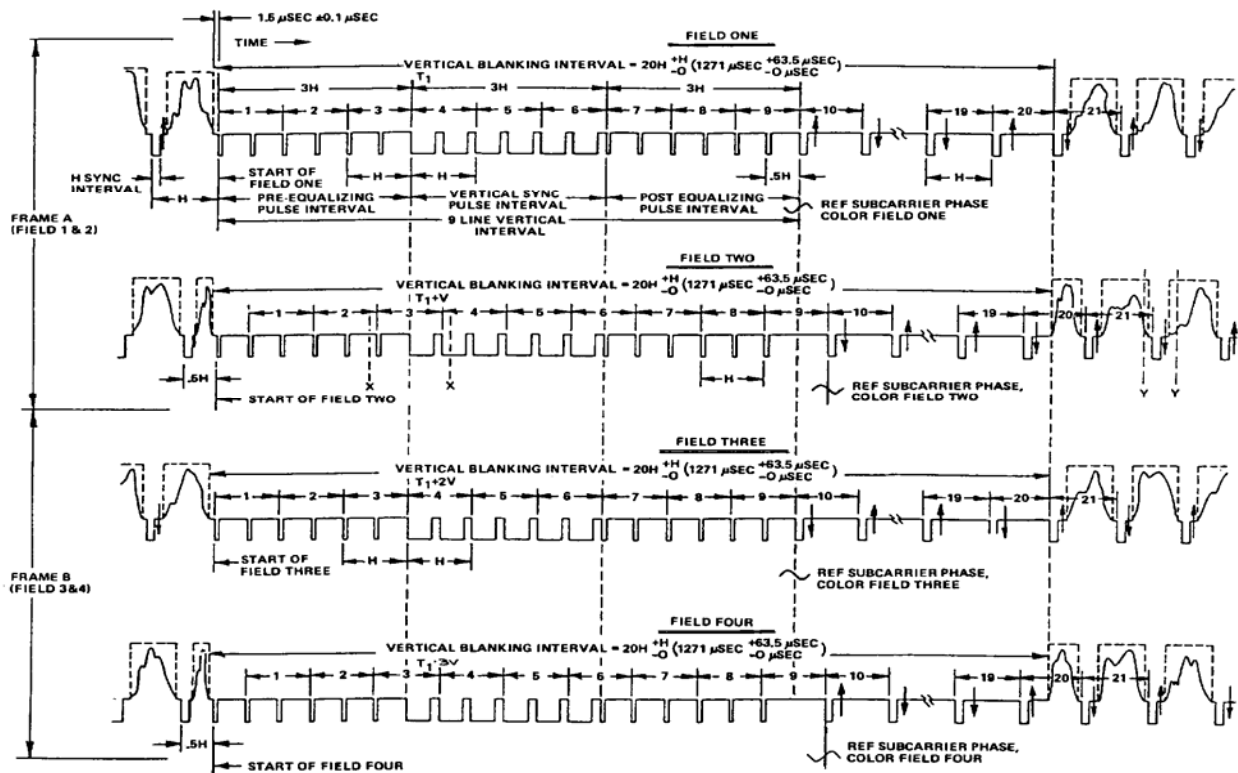

Figure S-4. Vertical and Horizontal Interval (part one)
a. Horizontal Synchronizing Pulses (Horizontal Sync). In Figure S-4, horizontal sync pulses are rectangular and occur at the end of each horizontal scanning line. The purpose of the horizontal sync pulses is to synchronize the horizontal scanning motion in the receiver precisely with the horizontal scanning motion of the camera at the picture point of origin. The horizontal sync pulses are part of the transmitted composite video signal and occur at intervals of 63.5 microseconds (usec). This is the time between the start of one scanning line to the start of the next scanning line.
(1) Each horizontal sync pulse rides on a corresponding blanking pulse, but has duration less than that of a blanking pulse.
(2) In Figure S-4, the leading edge is delayed with respect to the leading edge of the blanking pulse upon which it rides. This delay forms a step in the composite signal known as the front porch.
(3) Similarly, the step formed by the difference between the trailing edges of the sync pulse and the blanking pulse is called the back porch. The front porch is of very short duration and ensures that the scanning beam of the receiver extinguishes completely before the start of horizontal retrace. The back porch eliminates unwanted disturbances in the video signal after the sync pulse, before the scanning beam turns on.
c. Vertical Synchronizing Pulse (Vertical Sync). Vertical sync pulses (Figure S-4) are rectangular pulses that synchronize the vertical scanning motion in the receiver precisely with the vertical scanning motion of the camera at the program originating point. These pulses are part of the transmitted composite video signal and have a frequency of 60 Hz. The vertical sync pulses have a duration of 3H versus 0.08H for horizontal sync pulses (1H is equal to 1 horizontal line or 63.5 usec) which makes possible the separation of vertical and horizontal sync pulses by relatively simple frequency separation circuits.
d. Corresponding Blanking Pulse. Each vertical sync pulse rides on a corresponding blanking pulse. As shown in Figure S-4, each vertical pulse has six slots, making it appear to be a series of six wide pulses at twice the horizontal frequency. The slots provide nothing of value as vertical synchronizing information, but do provide uninterrupted information to the horizontal scanning circuits.
(1) The width of the slots in the vertical sync pulses is approximately equal to the width of the horizontal sync pulses (0.07H versus 0.08H). The slots are made as wide as possible so that noise pulses or other discrepancies occurring just before the leading edge of a slot do not disturb synchronization.
(2) To eliminate problems of nonuniform spacing of the scanning lines as the system scans successive fields horizontally, and to maintain continuous horizontal synchronizing information throughout the vertical synchronization and blanking interval, it adds another series of pulses called equalizing pulses to the composite video signal.
e. Equalizing Pulses. Equalizing pulses (Figure S-4) occur in groups of six before and after each vertical sync pulse. Each group has a duration of 3H. These pulses are part of the transmitted composite video signal.
(1) The equalizing pulses serve two purposes in getting good vertical picture resolution at the receiver.